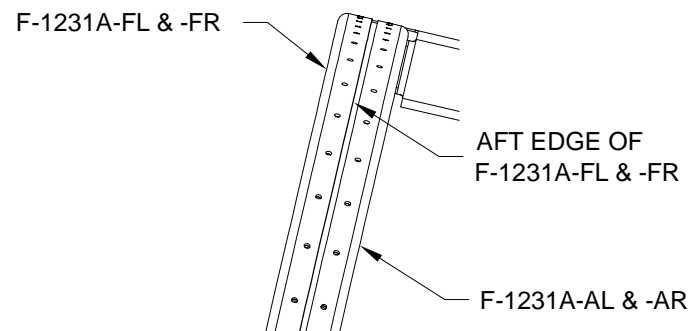

FIGURE 2:
Step 1: Install the F-1277B Aft Window on the fuselage using the hardware shown in Figure 2 and Figure 3. Use low torque (approximately 2 in-lbs) to minimize stress on the window. Leave the screws/nuts common to the window and the F-01277-L-1 & -R-1 Fwd Turtle Deck Skins loose for now.